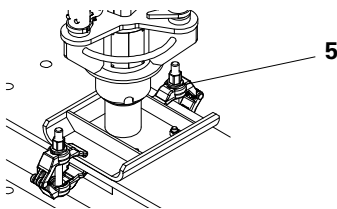

Fig. 23
1. Remove the Main Beam Clamps (5). (Fig. 23)